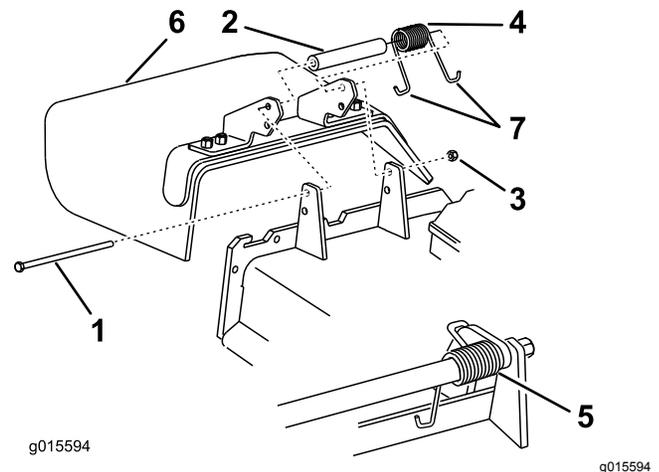

Figure 103
1. Remove the locknut, the bolt, the spring, and the spacer holding the deflector to the pivot brackets (Figure 103).
2. Remove the damaged or worn grass deflector (Figure 103).
**Note:** Make sure that the J-end of the spring is installed behind the deck edge before installing the bolt as shown in Figure 103.
6. Place the J-hook end of the spring around the grass deflector (Figure 103).